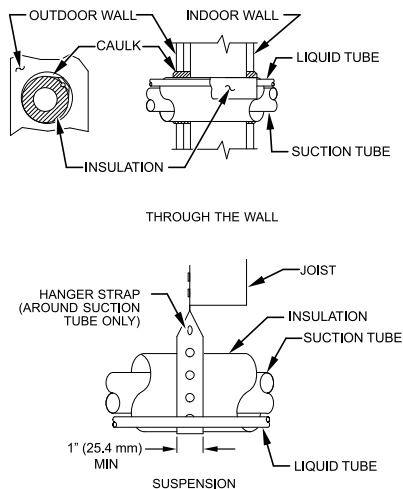

Fig. 1 – Connecting Tubing Installation
5. When passing refrigerant tubes through the wall, seal opening with RTV or another pliable silicon-based caulk. (See Fig. 1.)
7. Do not suspend refrigerant tubing from joists and studs with a rigid wire or strap which comes in direct contact with tubing. (See Fig. 1.)
9. When necessary, use hanger straps which are 1 in. (25.4 mm) wide and conform to shape of tubing insulation. (See Fig. 1.)